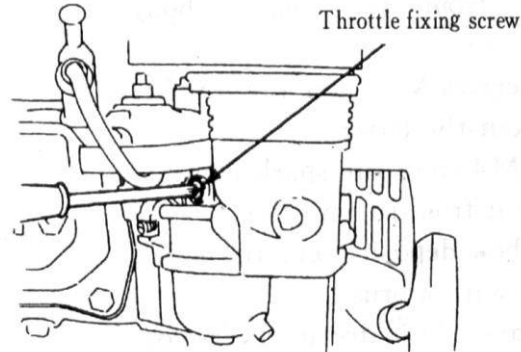

Fig. 31
- Start and preheat the engine until arriving at its normal working temperature (Fig.31).